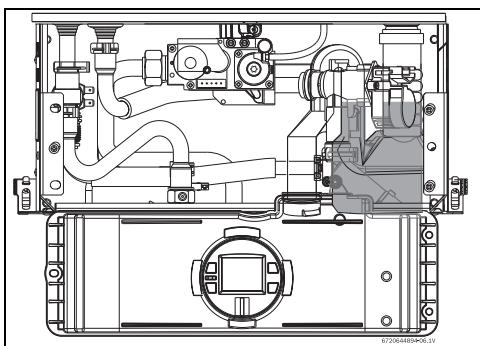

Fig. 42 Water level in condensate trap
- Put the control unit in service position by engaging its tabs with the holes in the bottom horizontal sheet metal, see fig. 42.